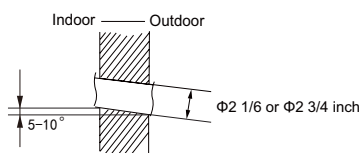

Fig.2
- (2) Open a piping hole with the diameter of $\Phi 2 \frac{1}{6}$ or $\Phi 2 \frac{3}{4}$ inch on the selected outlet pipe position. In order to drain smoothly, slant the piping hole on the wall slightly downward to the outdoor side with the gradient of $5-10^\circ$. (As shown in Fig. 2)